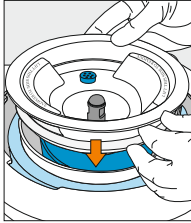

Figure 39
1. Place the Inner DryGuard™ Cone assembly onto the center of the cold water reservoir; make sure the words "LIFT THIS SIDE TO REMOVE" is aligned with the sides of the cooler and that the filter cap is positioned towards the rear of the cooler (Figure 39).